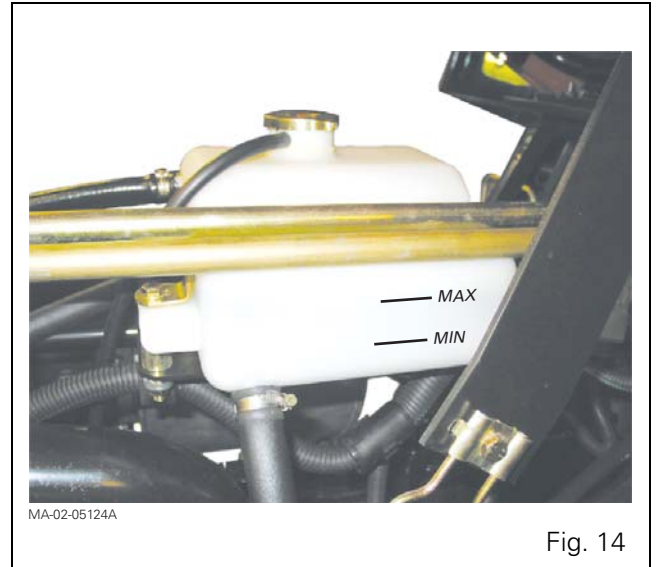

Fig. 14
- top up the **level of coolant**, to the maximum level marked on the expansion tank (Fig. 14);